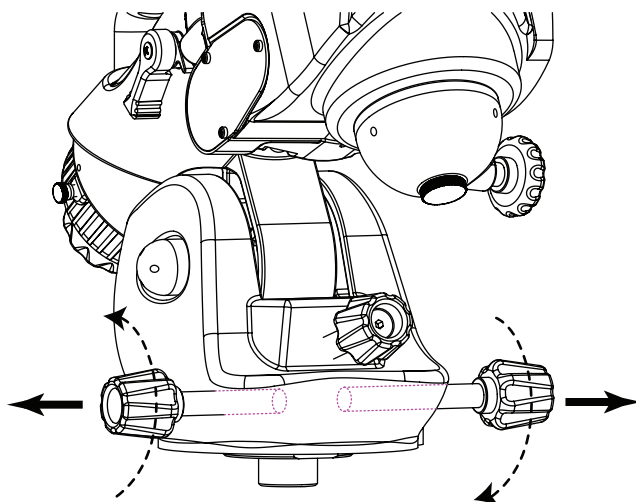

Fig. 1.2a
1. Loosen the two azimuth adjustment knobs on the EQ6-R mount until there is sufficient space between the two knob screws. (Fig. 1.2a)